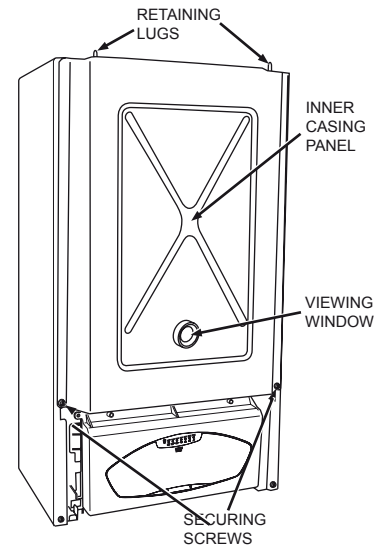

Figure 18.2
- Release the hermetic chamber cover by removing two screws on both sides and by lifting them to release from their retaining hooks. (*Figure 18.2*)